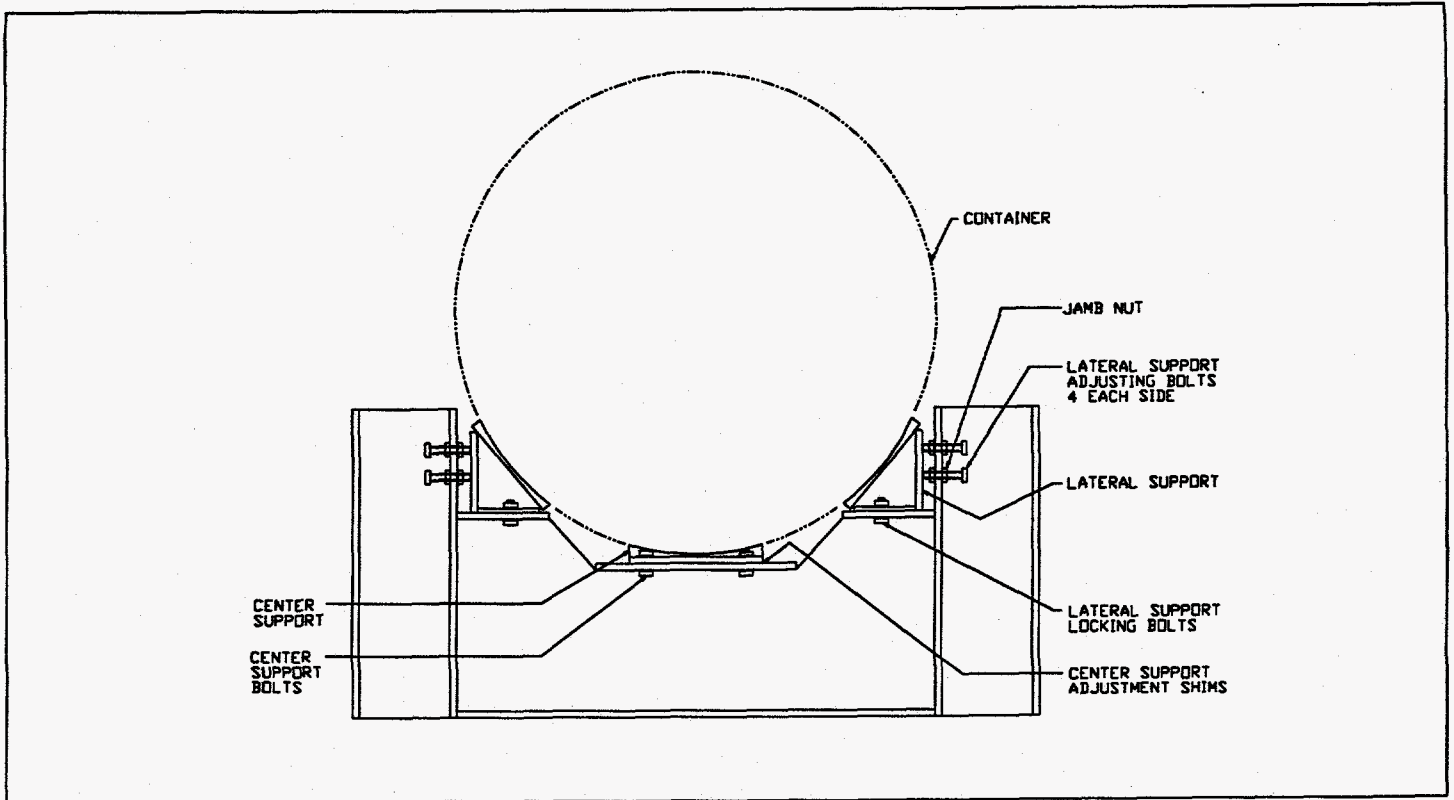

FIGURE 13, FRONT SUPPORT
- 1 Loosen the jamb nuts and bolts on the base support and side chocks (Figure 13, page 27).
- 1 Verify that the strongback is fully lowered and seated at the front support (Figure 13, page 27).